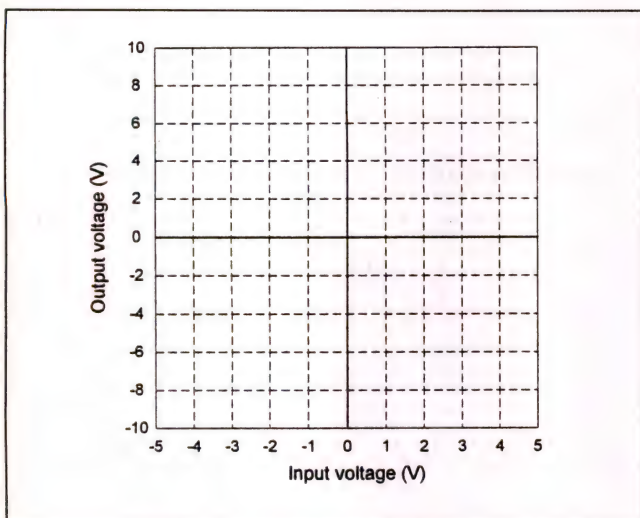

Fig. 5.12 Output voltage plotted against input voltage for the non-inverting amplifier ($R_F = 1\text{k}\Omega$).
- Use the results from Tables 5.6 and 5.7 to plot two graphs showing V_{OUT} plotted against V_{IN} for input voltages over the range -4V to $+4\text{V}$. One graph will be for $R_F = 1\text{k}\Omega$ whilst the other will be for $R_F = 2\text{k}\Omega$ (see Figs. 5.12 and 5.13).